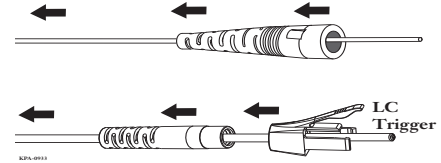

Figure 64 — Slide Boot onto Fiber/Cable
Step 1: Slide the strain-relief boot onto the fiber/cable. For LC connectors also slide the trigger on (Figure 64).